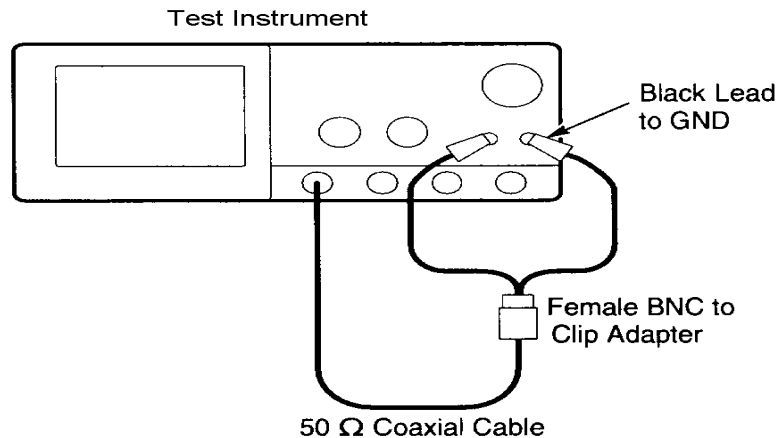

Figure 8. Equipment setup.
- (1) Connect equipment as shown in figure 8 below.